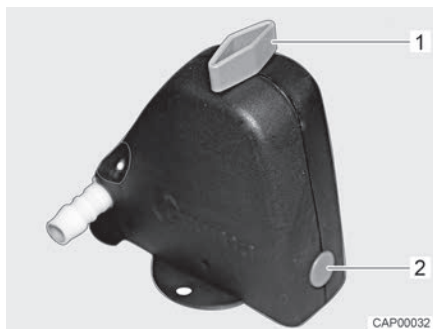
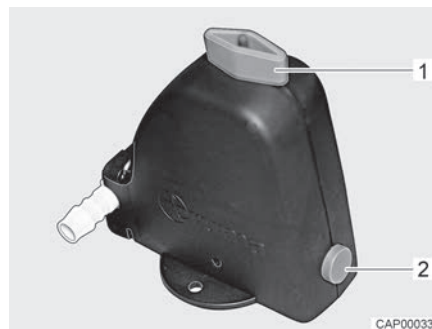

Fig. 76 Safety/drainage valve closed
Fig. 77 Safety/drainage valve open
- Open the safety/drainage valve (Fig. 76). To do this, turn the knob (Fig. 76,1) parallel to the safety/drainage valve. The push button (Fig. 76,2) jumps out. The open safety/drainage valve is shown in Fig. 77.